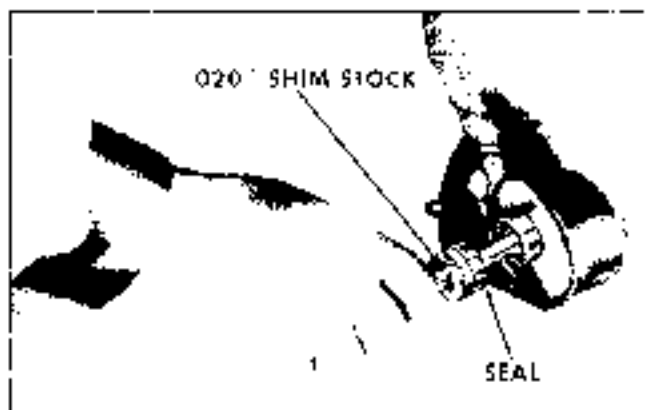

Fig. 4-25 Installing Piston Seal
4. Install new seals, using a piece of .020" shim stock (Fig. 4-25).
3. Inflate system through service valve to maximum available pressure (Fig. 4-25).